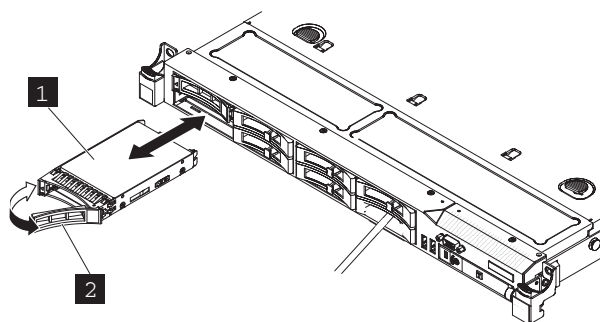

Figure 149. Solid-state drive (SSD) (SAN Volume Controller 2145-CG8 shown)
- b. Rotate the drive handle to the open (unlocked) position, as shown in Figure 149.